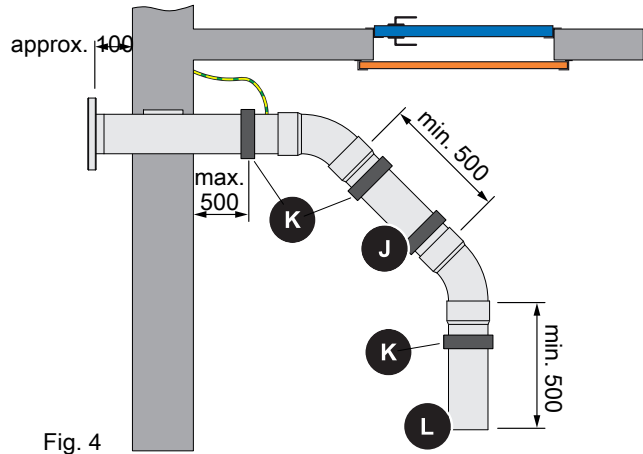

Fig. 4
- Embed or enclose the filling couplings in the wall leaving a distance of approx. 100 mm from the wall (Fig. 4). The rotation protection must be positioned within the wall
#### Extension and attachment of the filling couplings (Fig. 4)